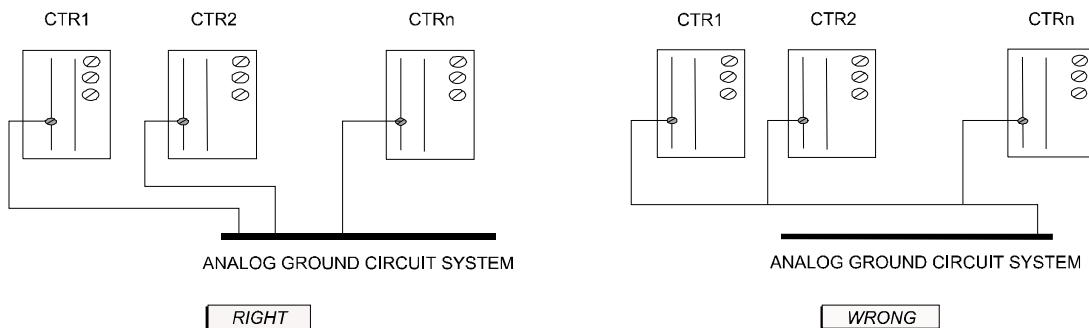

Fig. 9.3 - Analog Ground Connection (Bornes: 5B, 10B, 9A)
- Analog ground bar: is the one where the analog input and outputs returns (-) and also where the internal source of 24 Vdc are connected. The analog ground of every **CD600** (see fig. 6.3 - page 6.3) should be also connected to this bar (see fig. 9.3).